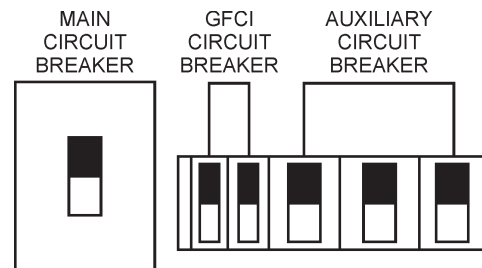

Figure 49. Main, Aux. and GFCI Circuit Breakers (ON)
12. Place the **main, GFCI, and aux.** circuit breakers in the **ON** position (Figure 49).